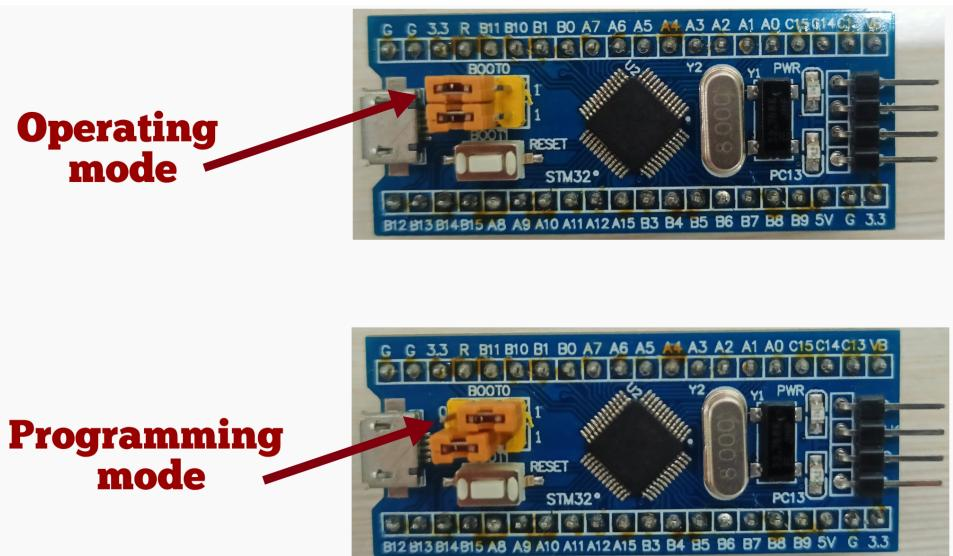

Fig. 11.2: STM32 Operating and Programming mode
- See how to enable programming mode in Fig. 11.2. This configuration will ensure that the microcontroller enters the system memory programmer on reset.
- Change the STM32 board to operating mode as shown in Fig 11.2 in order to run your code from the main flash memory.